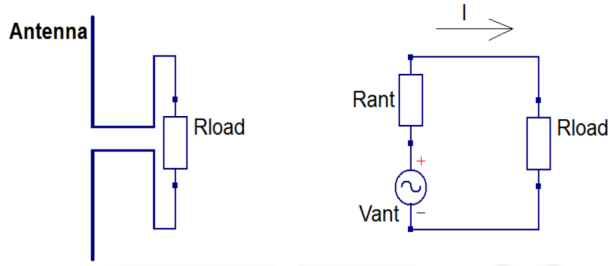

Figure 1. Antenna equivalent circuit.
The equivalent electrical model of an antenna is an AC voltage source ( $V_{\text{ant}}$ ) with series impedance ( $Z_{\text{ant}}$ ), as illustrated in Figure 1. Amplitude of the AC voltage source depends on the available power ( $P_{\text{AV}}$ ) and the real impedance ( $R_{\text{ant}}$ ). The average power received ( $P_{\text{AV}}$ ) depends on the power density ( $S$ ) and the antenna effective area ( $A_e$ ), as expressed in Eq. (1):